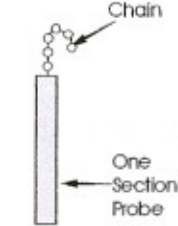

Figure 1
2. Insert the probe (See Figure 1) down into the 2" pipe nipple. Apply a good quality pipe thread sealant to the 2" pipe threads. Connect the probe to the transducer assembly. **For multi-section probes see instructions below.**